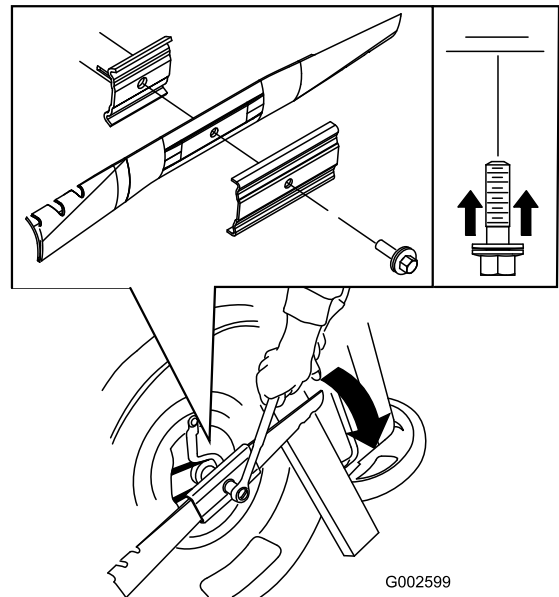

Figure 26
5. Install the new blade (turn the blade bolt clockwise) and all mounting hardware (Figure 26).